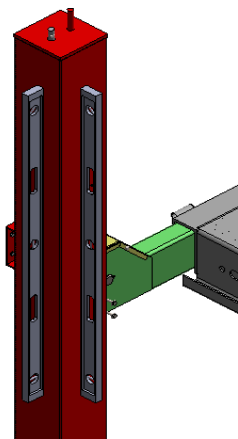
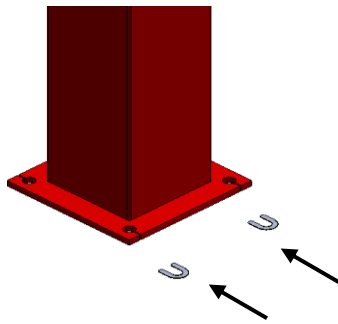

Figure 32
Figure 33
- Check that the column is level front to rear and side to side (Fig 32). Adjust shims as required. See Fig. 33.